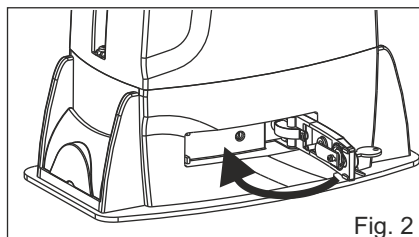

Fig. 2
2) Reset the mechanical lock (Fig. 2)